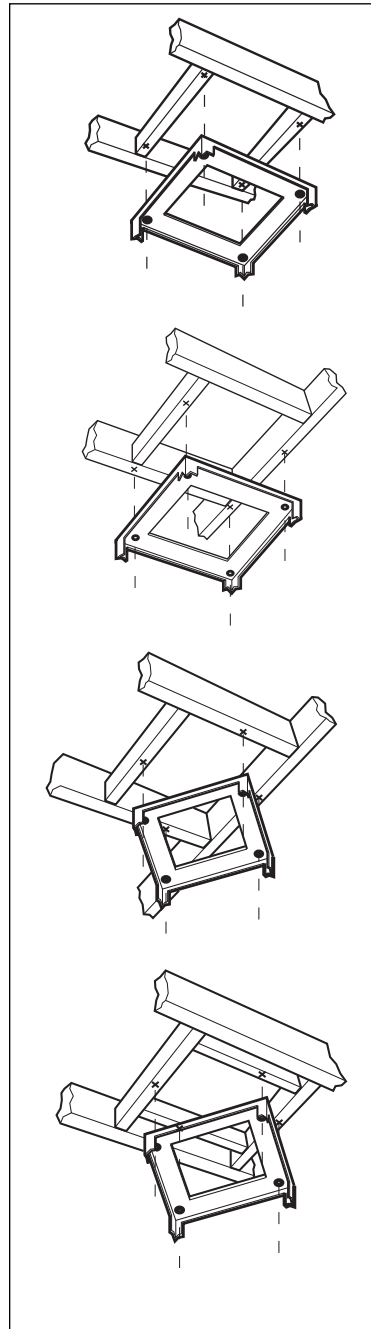

FIG.2
2. Remove and save template. Cut and remove ceiling drywall. Install suitable length 2" x 4" lumber between joists to provide chimney mounting points as shown in Fig. 2. Use template for dimensions and required clearance.
Make sure to affix the added lumber firmly and level. Consult a professional if you have difficulties or your installation is unique. Consult template and Fig. 2.